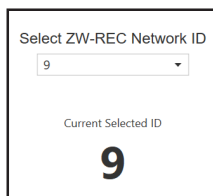

Figure 5
**Step 2:** Omega Sync will detect the Network ID of the connected ZW-REC. See **Figure 5**. Click **Next** to accept network ID.